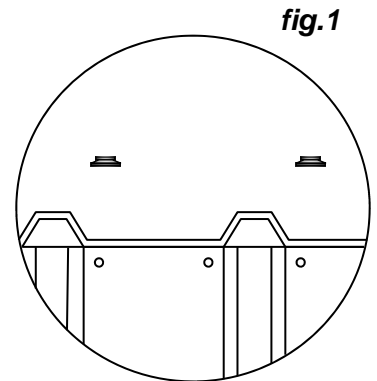

fig.1
- Ensure the Front and Back Top Plates are straight. Nail the roof sheets to the front & back Top Plates, using 1 x nail per pan (fig.1).